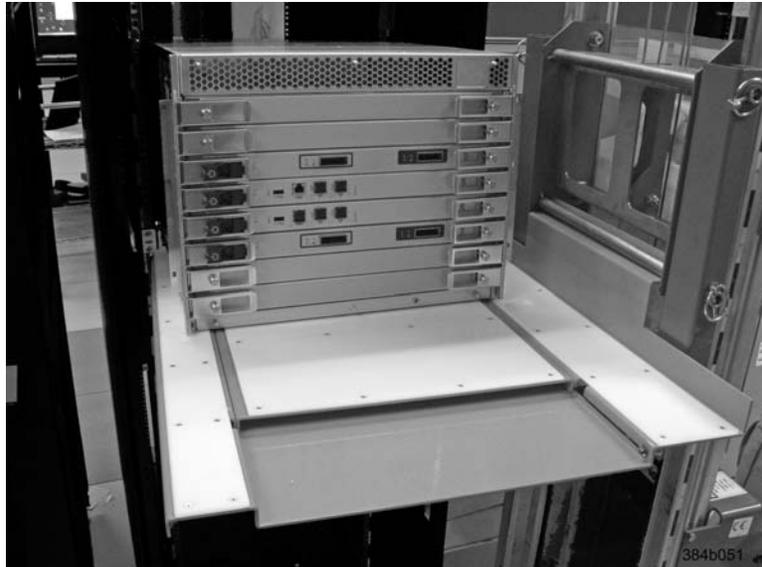

Figure 13. Chassis half way into cabinet on load plate
9. Carefully slide the chassis into the cabinet between the shelf and the upper edge of the exhaust kit duct assembly until the chassis rests securely on the shelf. Figure 13 on page 26 shows a view from outside the cabinet with the middle of the load plate fully extended and the chassis pushed approximately half way into the cabinet. Reposition the nut clips installed earlier if necessary. Push the chassis all the way into the cabinet until the flanges on the port side of the chassis are firmly against the cabinet vertical rails.